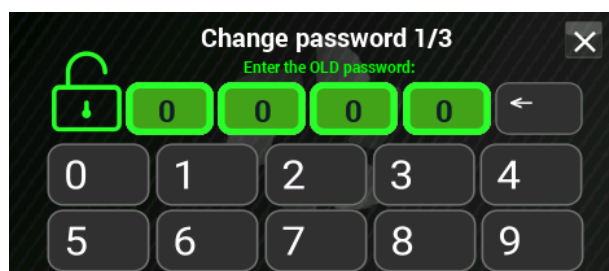

Figure 16-17: Old password entered correctly.
- The screen confirming that the old password has been entered correctly appears (**fig.16-17**).